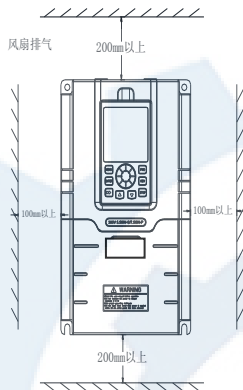

Fig.3-1 Mounting space and distance
- (1) Generally in vertical way.
- (2) For the requirements on mounting space and distance, refer to Fig.3-1.